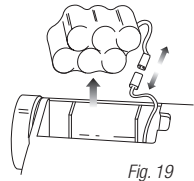

Fig. 19
- 4 Carefully lift out the battery pack and disconnect the wire terminals by pressing on the latch and pulling apart the wire terminal connectors. Remove the battery pack. (fig. 19)